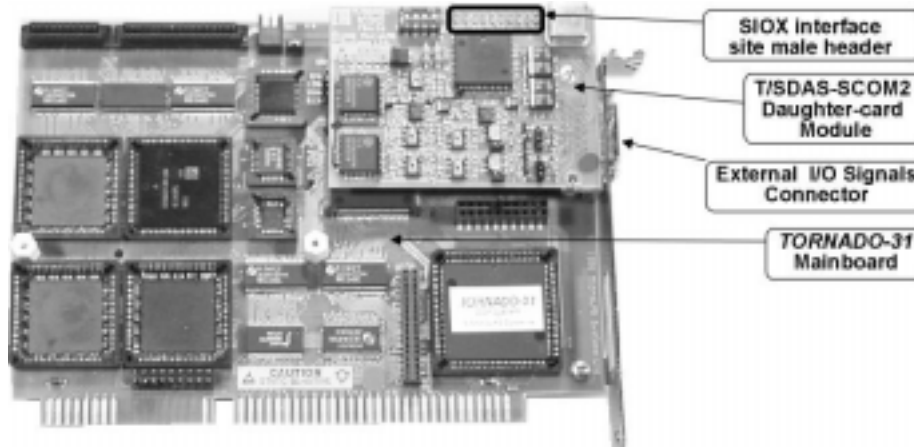

Fig. 1-2. T/SDAS-SCOM2 daughter-card module installed onto TORNADO-31 mainboard.
*T/SDAS-SCOM2* module installs as SIOX daughter-card module (fig.1-2) into the SIOX site onto *TORNADO* DSP mainboard. If required, the *T/SU-X* SIOX extender can be used for remote connection to SIOX interface of *TORNADO* mainboard.